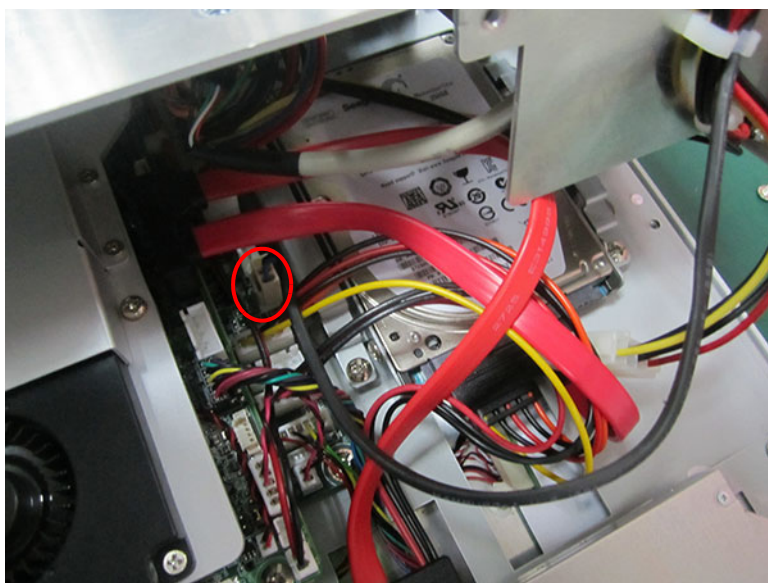

Figure 2.37
7. Lock the reinforced board and connect the fan cable, and check if the left system fan cable is connected well. (See Fig 2.37)